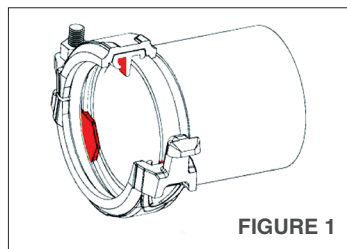

FIGURE 1
Step 3. Push the gasket/coupling onto one end of the pipe until the positioning-plate of the gasket is in contact with the end of the pipe (**SEE FIGURE 1**) the red highlight is the center stop. The pipe end should not cross through the center stop of the gasket. (**SEE FIGURE 2**).